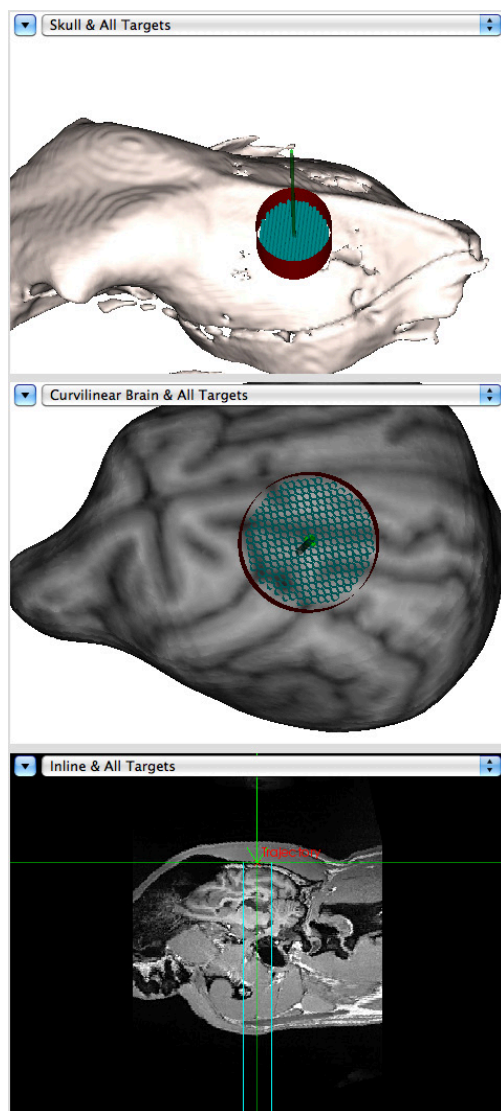

Fig. 12-5
- If you have a 3D reconstruction of the skull, select it in one of the view windows. It is also helpful to display the 3D brain (curvilinear or "classic 3D"), inline, inline-90 and perpendicular views to evaluate the orientation of the chamber (see Fig. 12-5).